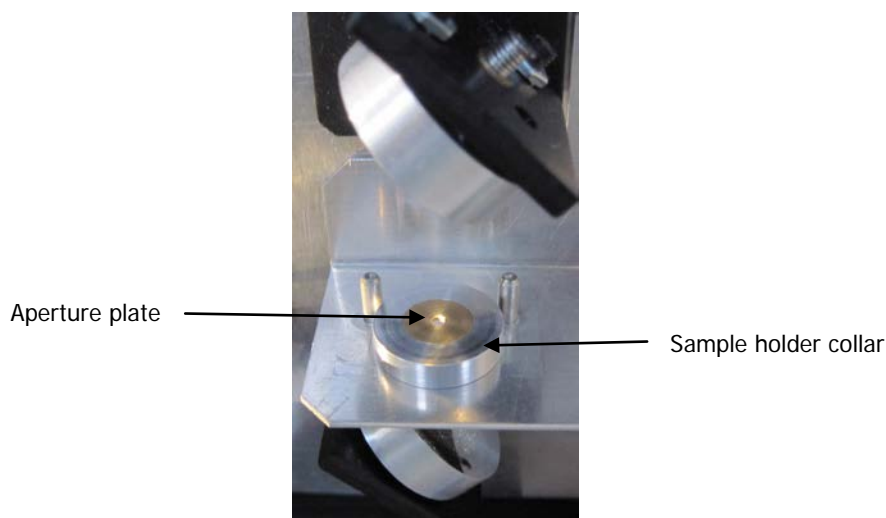

Figure 8 Positioning the aperture plate and sample holder collar in the accessory
4. Install the sample holder collar on the sample stage, so that it sits inside the hole in the sample stage (Figure 8).